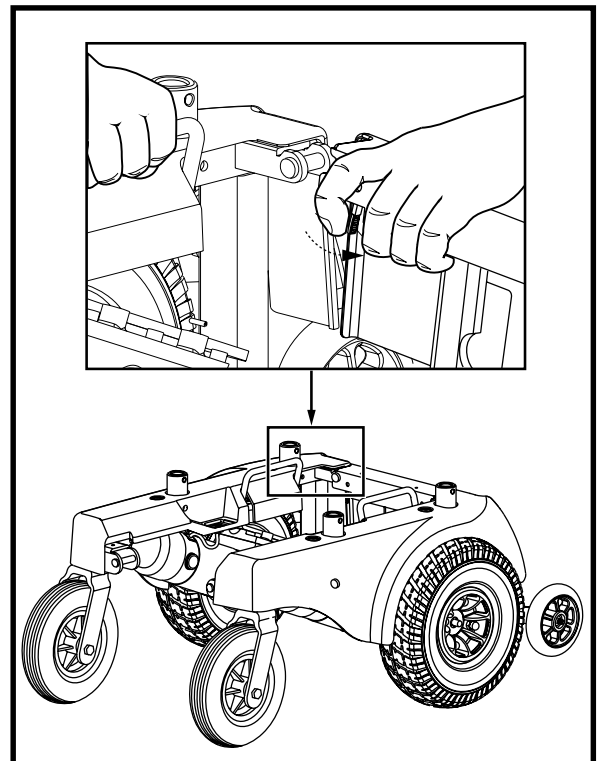

Figure 14. Fitting the Frames
1. Stand behind your power chair and grasp one of the power base frame assembly handles. See figure 14.
3. Pivot the front frame top bar toward the power base frame assembly and push the front frame top bar onto the locking mechanism until the two assemblies snap securely into place. See figure 14.